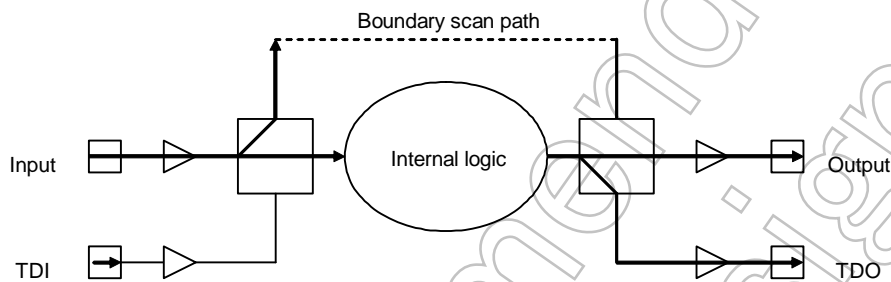

Fig. 20-11 Flow of Data While SAMPLE Is Selected
- The SAMPLE instruction is used to monitor the I/O pad of an IC. While SAMPLE is monitoring the I/O pads, the internal logic is not disconnected from the I/O pins of an IC. This instruction is executed in the Capture-DR state. A main function of SAMPLE is to read values of the I/O pins of an IC at the rising edge of TCK during normal functional operation. Fig. 20-11 shows the flow of data while the SAMPLE instruction is selected.